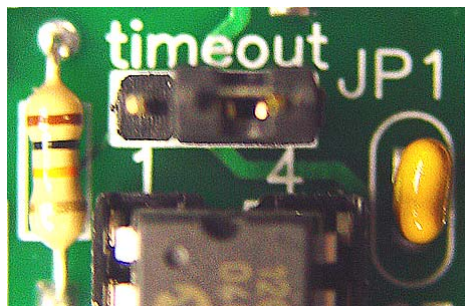

Fig. 1-Jumper Shown in the “4” minute maximum time-out position
18. The Silence Sense Sr. is provided with the maximum timeout set to the 4 minute range. For shorter timeout periods of less than one minute and higher resolution of the multi-turn delay potentiometer, an internal jumper must be reset. To set the maximum timeout to the one minute range it will be necessary to open the cabinet by removing the 4 screws on the bottom side of the cabinet and carefully separate the bottom and top of the cabinet. Locate the jumper on the silence detector circuit as shown in figure 1 below, and move the jumper to the “Left” position. Reassemble the cabinet being careful to not pinch any of the connecting wires in the cabinet sides.